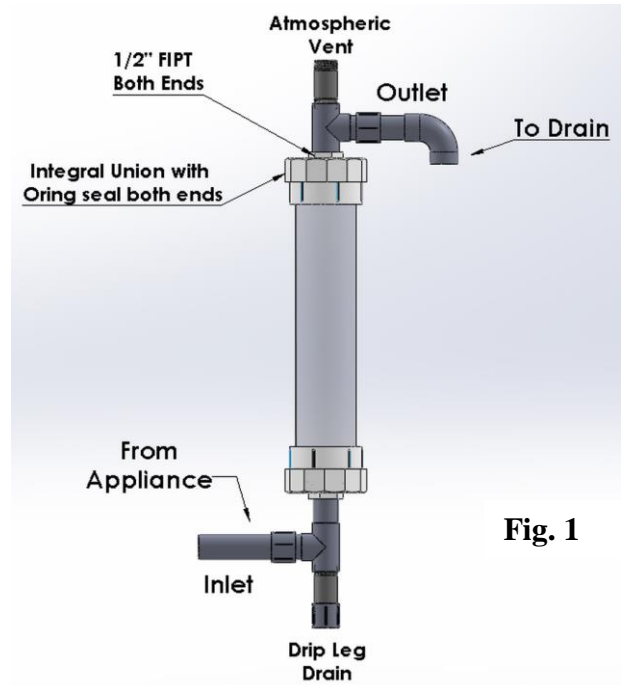

Fig. 1
- It is recommended that Neutra-Safe condensate neutralizers be installed as close as possible to the outlet of the gas trap. **Refer to Fig. 1 for proper piping layout.**